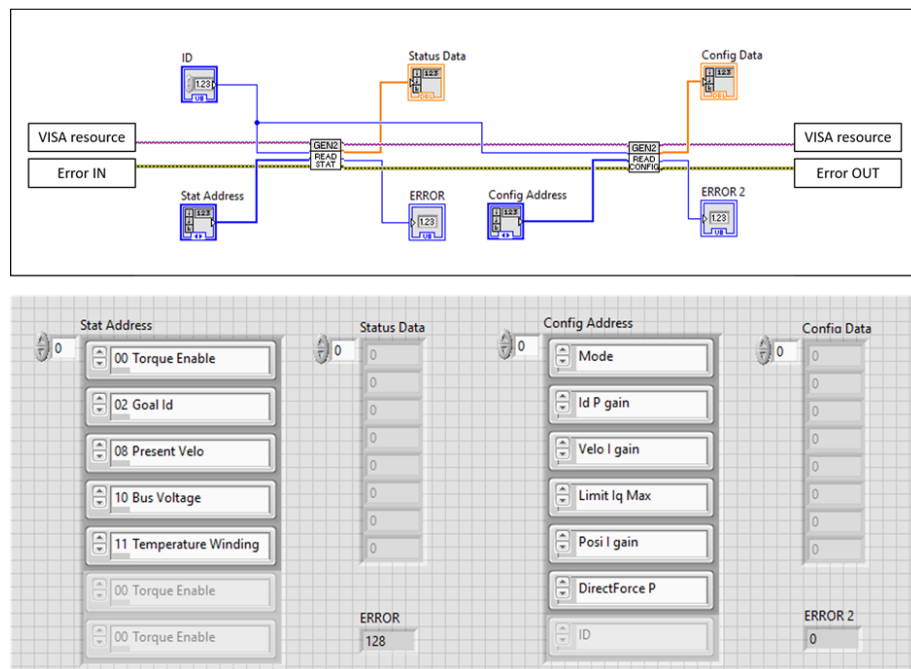

Figure 14: Read from BEAR.
- 1) **Read from BEAR** The value of configure and status registers of BEAR can be read by respectively using the *Read_Config* and *Read_Stat* subVIs, as shown in figure 14.
To use the read subVIs, connect VISA resource and Error lines to corresponding terminals, then specify the ID of the target BEAR as well as the address of the target registers to read from. This can be done by creating controls from the corresponding terminals. Multiple registers can be read at once as shown in figure 14. Both subVIs return the requested data as well as error code from the target BEAR.